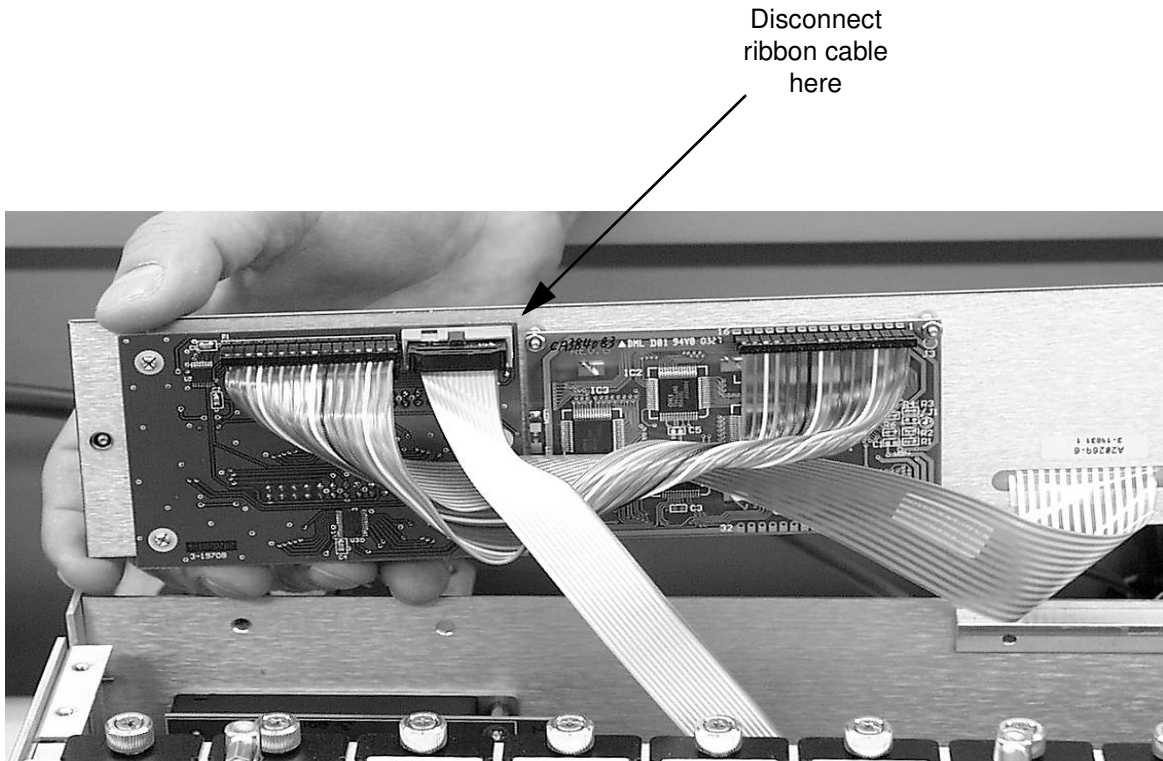

Figure 6: Disconnecting the display user interface assembly from the card cage.
- D) Remove the ribbon cable that connects the display user interface assembly to the card cage. Refer to **Figure 6**.